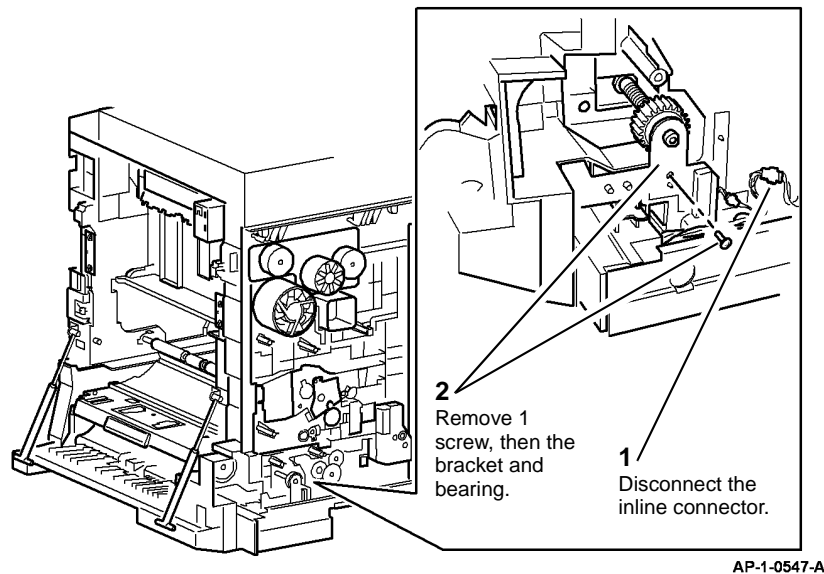

Figure 1 Preparation
2. Prepare the rear of the paper transport assembly, Figure 1.